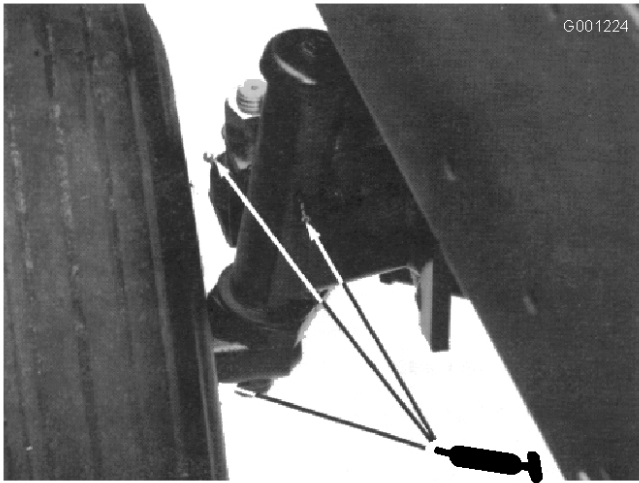

Figure 39
- Rear wheel spindle bushings (Figure 39)